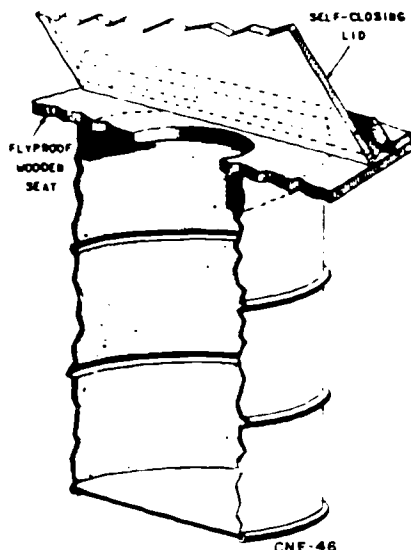

Figure 2-4. Oil drum latrine.
**Oil drum.** The oil drum latrine, similar to that shown in figure 2-4, is considered the ideal type of latrine for use by small USAF units in the field. To construct an oil drum latrine, you remove the top from a 55-gallon oil drum and fix a flyproof seat with a self-closing lid over the top of the drum. Where the water table is low and the area drains rapidly, the bottom of the drum may be perforated and the latrine set into a flyproof soakage pit. This latrine is intended for long time use; the contents are burned daily, and the resulting ashes are buried.